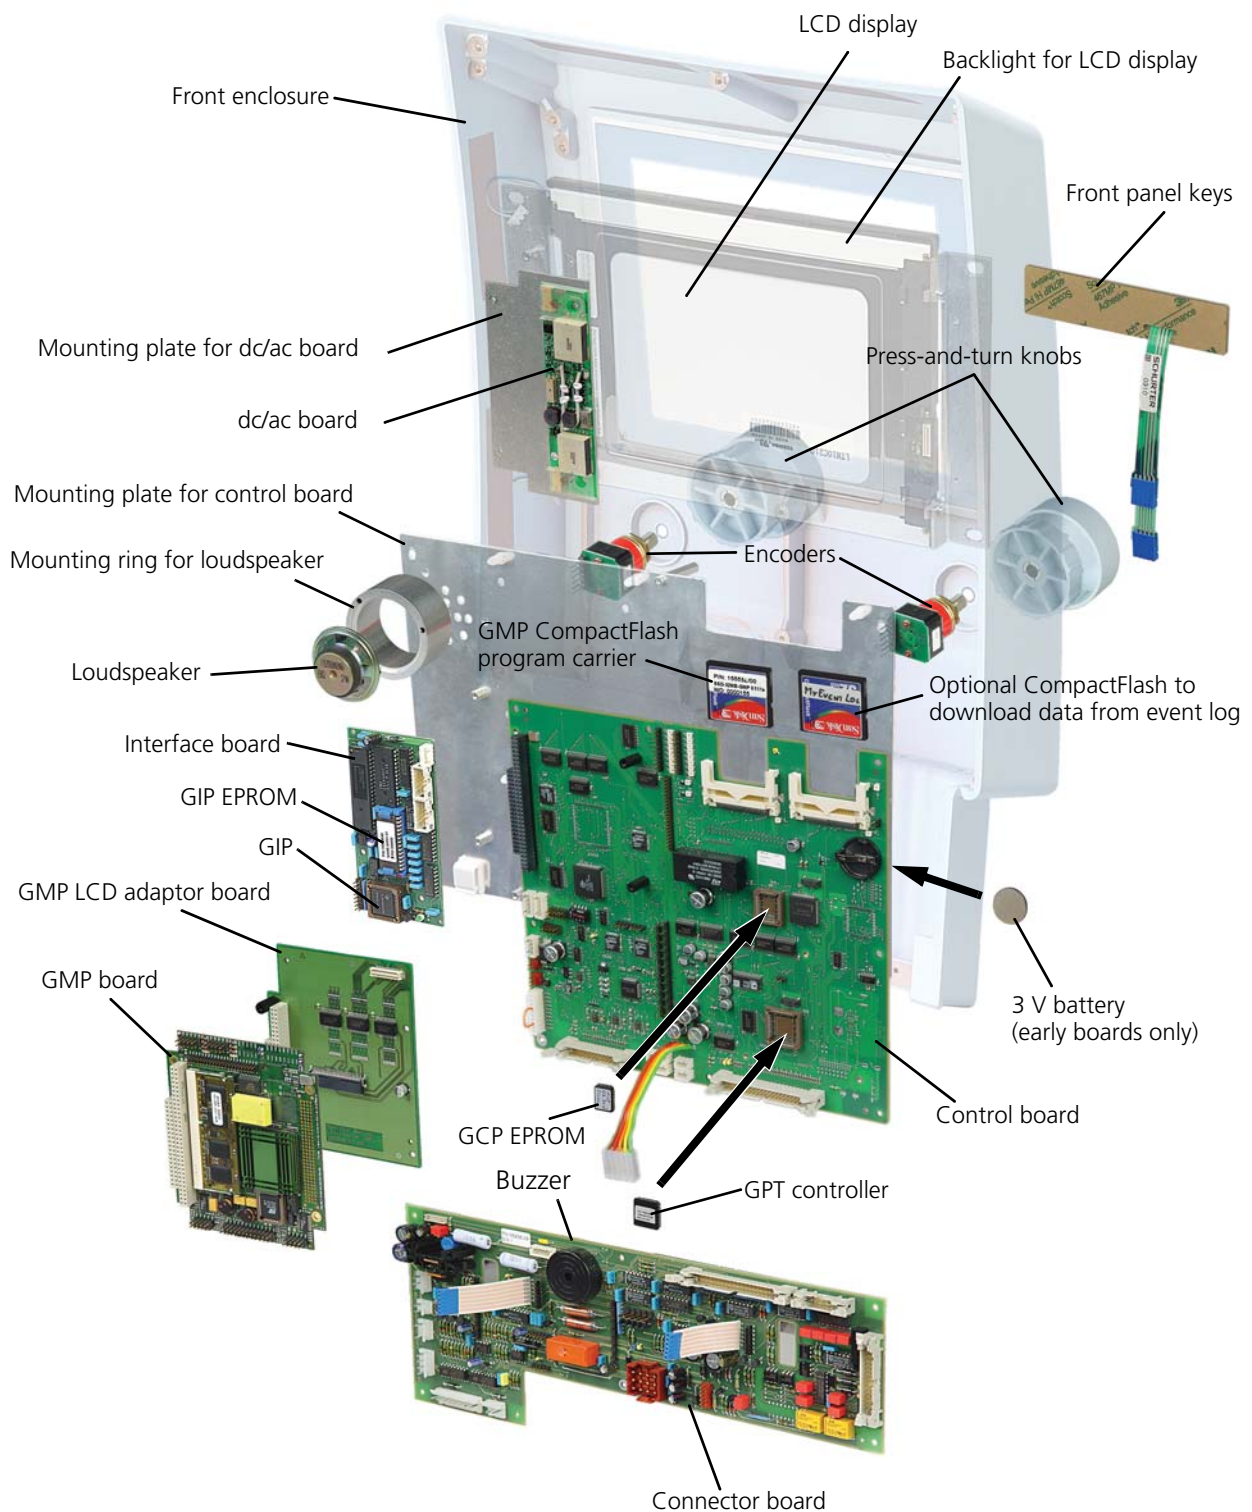

Figure 3-1. Components in the front enclosure
- In original and Upgrade 1 GALILEOs, the CompactFlash memory (containing the GMP software) and the GMP processor were part of the same assembly. In Upgrade 2 GALILEOs (SN 4000 and higher), the CompactFlash card is mounted on the *control board* as shown in Figure 3-1 on page 3-2.
- The interface is an option, and can only be fitted together with the *interface board* as shown in Figure 3-1, *Components in the front enclosure*, on page 3-2.